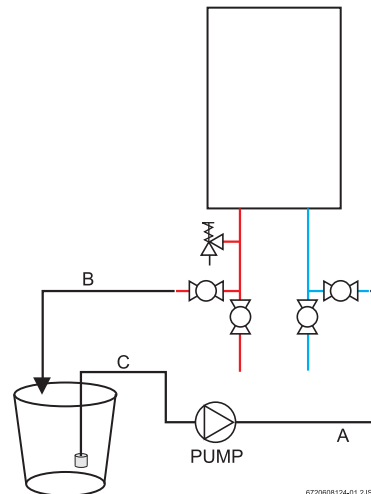

Fig. 65
5. Connect a line (A) from the outlet of the circulating pump (installer supplied) to the inlet water fitting on the water heater (see Fig. 65.)
6. Using another line (B), connect the water outlet fitting on the water heater. Route the other end of this line into a descaling reservoir.
7. Using a 3rd line (C) from the descaling reservoir, connect to the inlet side of circulating pump. Install a filter on the end of the line in the descaling reservoir.